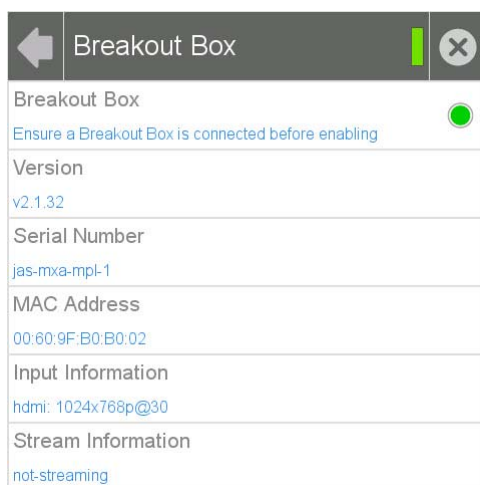

FIG. 9 Breakout Box Settings page
2. From the *Connections & Networks* page, select *Breakout Box* to open the *Breakout Box* page (FIG. 9).